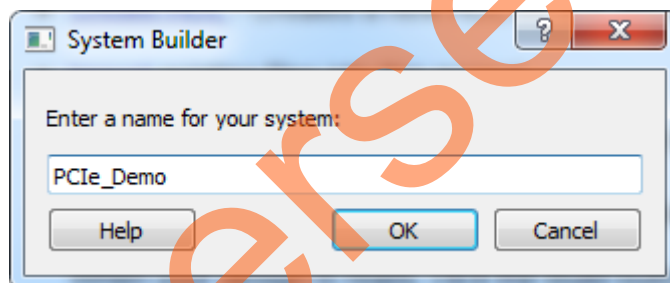

Figure 6 • Create New System Builder Dialog Box
6. Selecting the **Use System Builder** displays the “Enter a name for your system” dialog box, as shown in Figure 6.